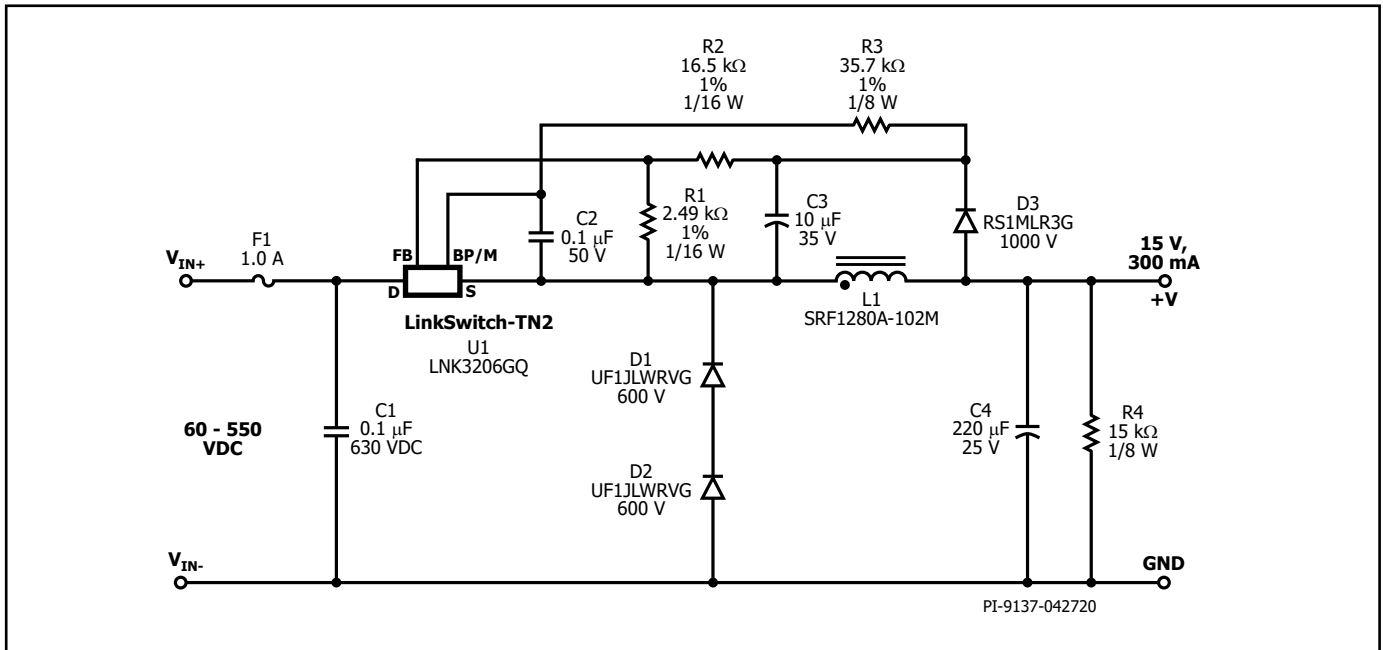
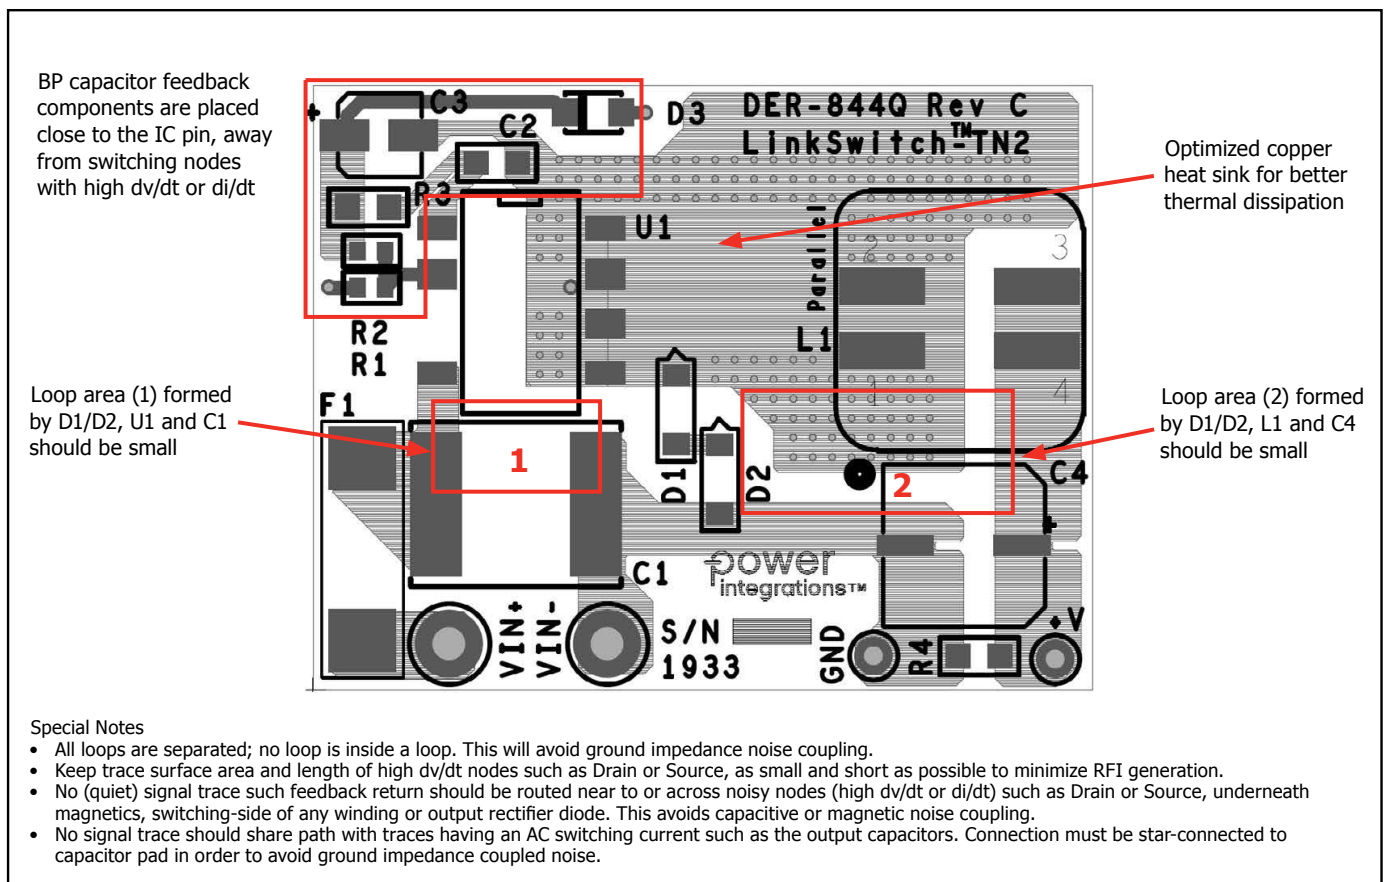

Figure 7. 60 VDC – 550 VDC, 15 V, 300 mA Constant Voltage Power Supply using LinkSwitch-TN2 Automotive.
Figure 8. Recommended Printed Circuit Layout for LinkSwitch-TN2 Automotive using G Package.
The circuit shown in Figure 7 is typical implementation of a 15 V, 300 mA non-isolated power supply used in automotive application. DC voltage from a battery source will be the input to the buck converter. The buck converter circuit was designed to meet AEC-Q100 Grade 3 temperature requirement of -40 °C – +85 °C.
Regulation is maintained by skipping switching cycles. As the output voltage rises, the current into the feedback pin will rise. If this exceed I_{FB} then subsequent cycle will be skipped until the current is reduces below I_{FB} . Thus, as the output load is reduced, more cycles will be skipped and if the load increases, fewer cycles are skipped. To provide overload protection if no cycles are skipped during 50 ms period, LinkSwitch-TN2 Automotive will enter auto-restart, limiting the average output power to approximately 3% of the maximum overload power. Due to tracking errors between the output voltage and the voltage across C3 at light load or no-load, a small pre-load may be required (R4). For the design in Figure 7, if regulation to zero load is required, then this value should be reduced to 5 kΩ.
Referring to Figure 7, the following considerations may be helpful in selecting components for a LinkSwitch-TN2 Automotive design. Selected component should be AEC compliant due to automotive application.
Figures 8 are printed circuit board layout design examples for the circuit schematic shown in Figure 7. The loop area 1 formed by LinkSwitch-TN2 (U1), free-wheeling diodes (D1, D2), and input bypass capacitor (C1) should be kept as small as possible. The loop area 2 formed by inductor (L1), output filter capacitor (C4) and free-wheeling diodes (D1, D2) should also be kept as small as possible. The BYPASS pin capacitor C2 should be located physically close to the BYPASS (BP) and SOURCE (S) pins. Effective decoupling capacitor C1 placement should be close to the DRAIN (D) pin. For a clean feedback signal, Feedback diode (D3) should be star connected to output cap (C4). Trace from output cap (C4) to Feedback diode (D3) should be space out properly away from switching nodes.